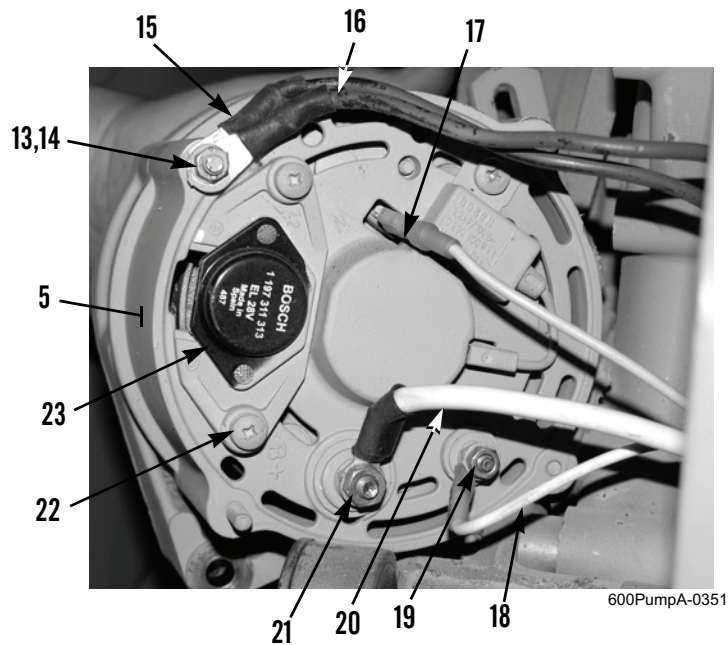

Figure 6. Alternator Wires.
4. Install voltage regulator (Figure 6, Item 23) and two screws with captive washers (Figure 6, Item 22) on alternator (Figure 5, Item 5).
1. Install wires (Figure 6, Items 15 and 16), new lockwasher (Figure 6, Item 14), and nut (Figure 6, Item 13) on alternator (Figure 6, Item 5).
2. Connect wire (Figure 6, Item 17) to alternator (Figure 6, Item 5).
3. Install wire (Figure 6, Item 20) and new locknut (Figure 6, Item 21) on alternator (Figure 6, Item 5).
4. Install wire (Figure 6, Item 18) and new locknut (Figure 6, Item 19) on alternator (Figure 6, Item 5).